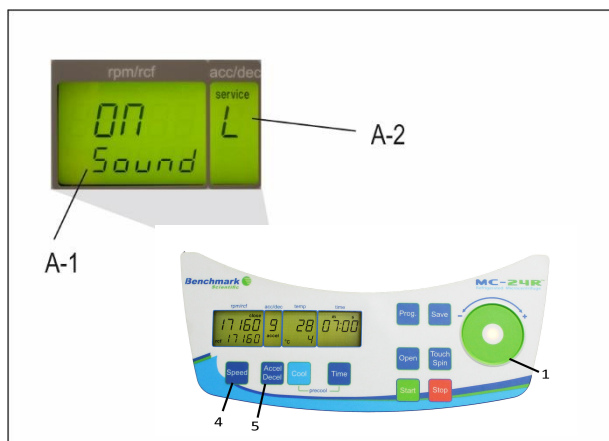

Figure 9
Proceed as illustrated, under point 1.8.1, to enter this program mode, press the key; "accel/decel" (5). In the display, "accel/decel" (A-2) flashes the word, "service". Select the letter, "L" with the control field (1). As a result, appearing in the display "rpm/rcf" (4), are the words, "On Sound". By pressing the key, "speed" (4), the word "On" flashes, and the sound can be switched off with the control field (1), (see Figure 9).